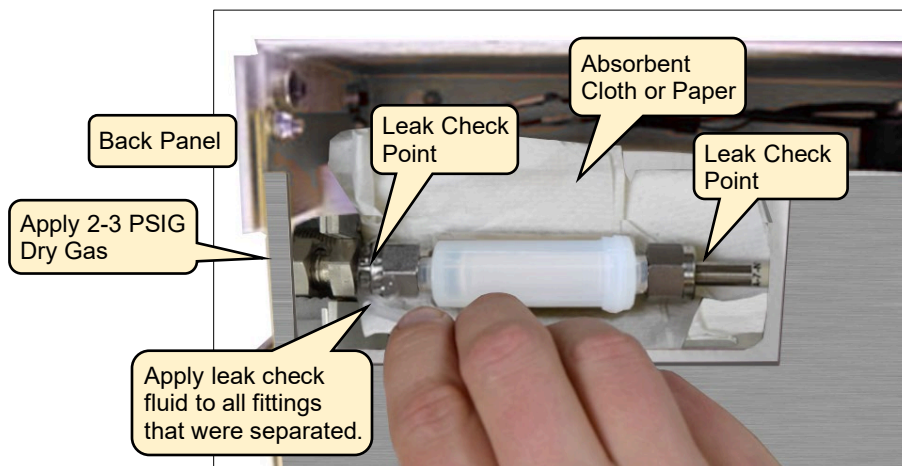
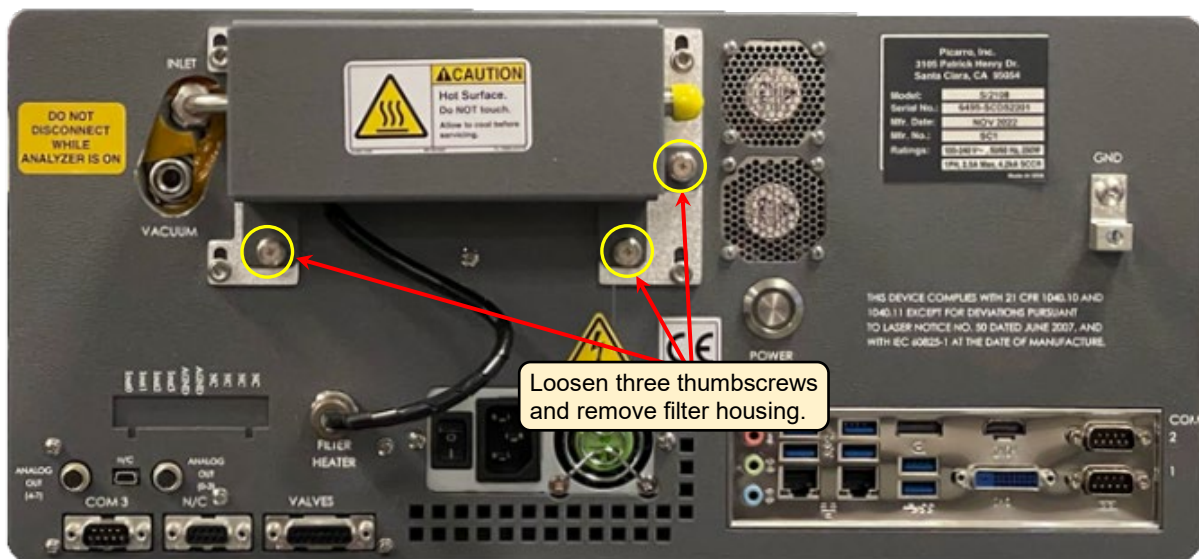

Figure 19: Leak Test After Reassembly – PTFE Filter
Figure 20: External Filter Housing Screws
2. Loosen the three captive thumbscrews on the filter housing, then carefully remove the filter housing (Figure 19, Figure 20).